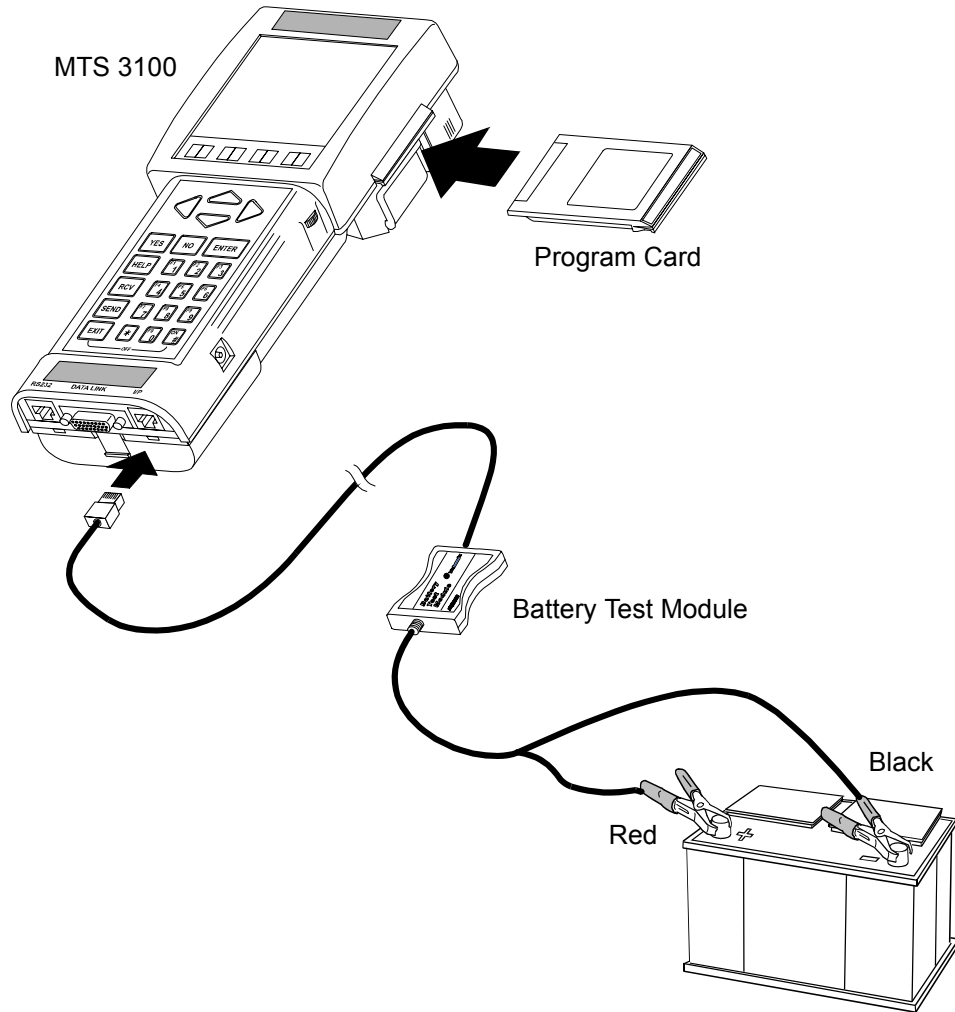

FIGURE 1. Connecting the Battery Test Module
1. Connect the Battery Test Module to the MTS 3100 by inserting the IP cable connector of the Battery Test Module into the IP serial port at the bottom of the MTS 3100 (see Figure 1).